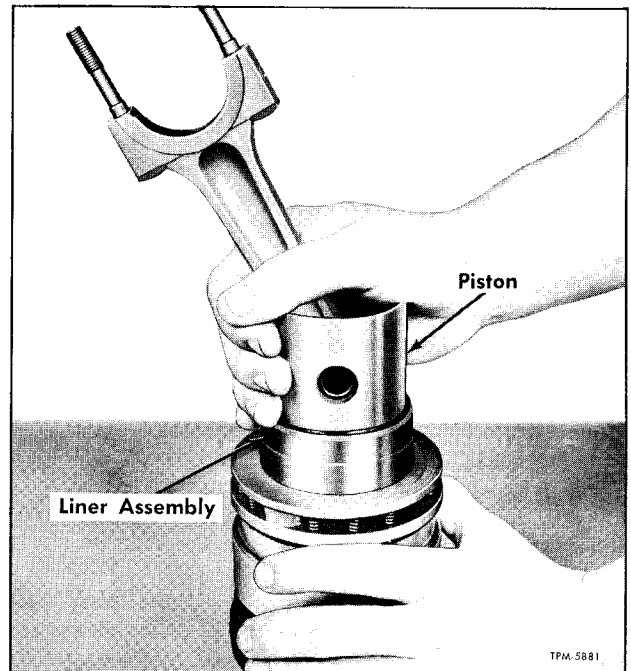

Figure 88—Installing Piston in Liner Assembly
2. Carefully insert piston down into liner (fig. 88). NOTE: Both piston and liner are tapered to assist installation. Rotate and rock piston while at